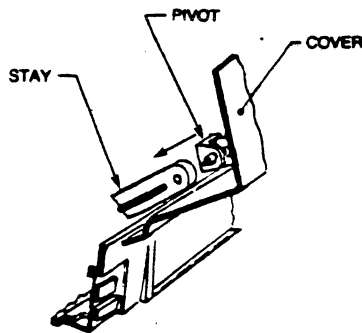

Figure 1
1. Lift the cover of Model 820 KSR and disconnect the cover stay (located in right rear of printer) by moving top of stay to right and off of pivot pin attached to cover (see Figure 1). DO NOT let cover open more than 90° to base.